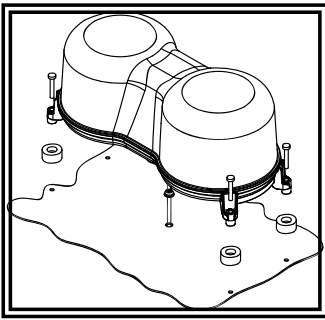

Figure 1
2. Using the minibar base as a template, mark the four mounting hole locations (see Figure 1).
4. A fourth hole may be drilled for wire access as shown in Figure 1, and the wires may be routed through the grommet.